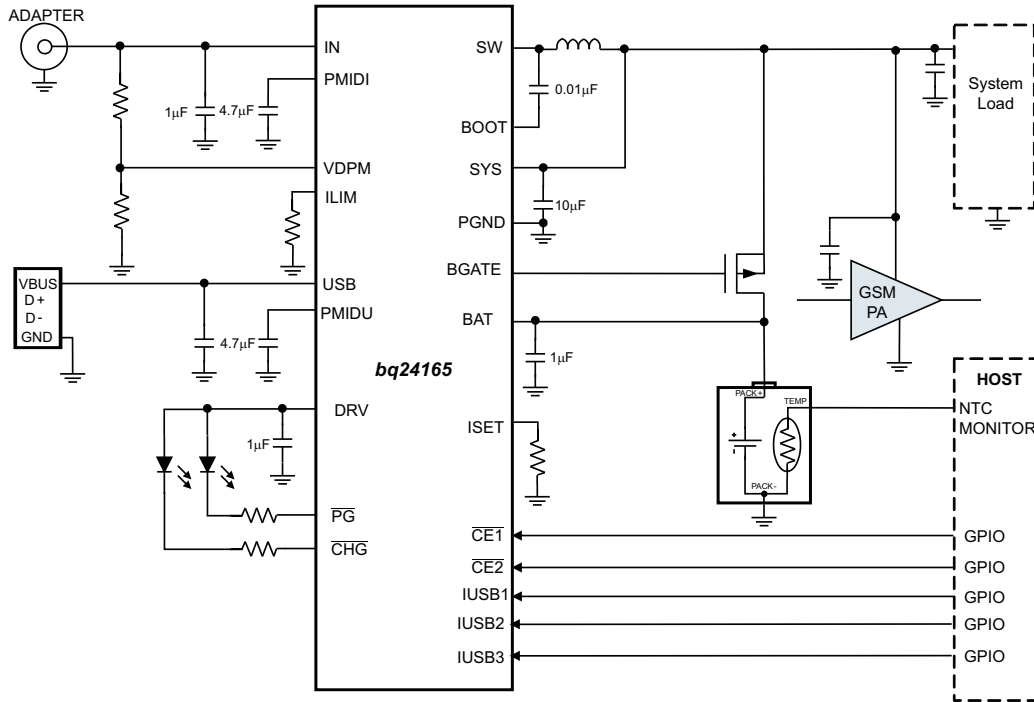

Figure 1. bq24165, Shown with External Discharge FET, PA Connected to System for GSM Call Support with a Deeply Discharged or No Battery
The charger's constant current (CC) loop regulates the charge current to  $I_{CHARGE}$  until the battery reaches close to the regulation voltage. Once the battery voltage is close to the regulation voltage,  $V_{BATREG}$ , the charge current step downs sharply as the constant voltage (CV) loop takes over, the internal battery FET turns on full, tying SYS to BAT and the charger tapers down the charge current as shown in Figure 1. The voltage regulation feedback occurs by monitoring the battery-pack voltage between the BAT and PGND pins.